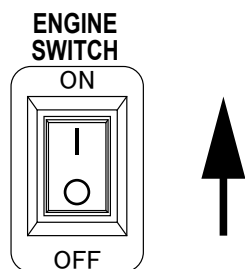

Figure 18. Engine Switch
3. Turn the Engine Switch to the ON position (Figure 18).